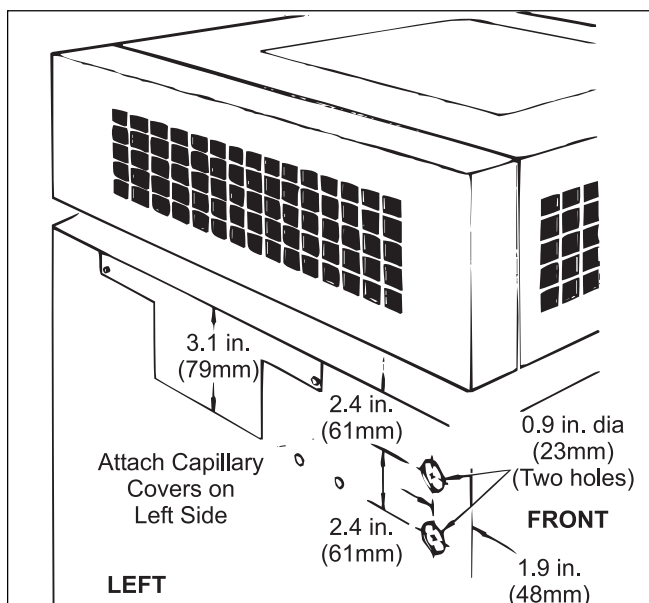

Figure 19. Hole location, left side.
18. Use a chassis punch to put two 7/8 inch (22 mm) holes in the front left side of the jacket (see Figure 19).